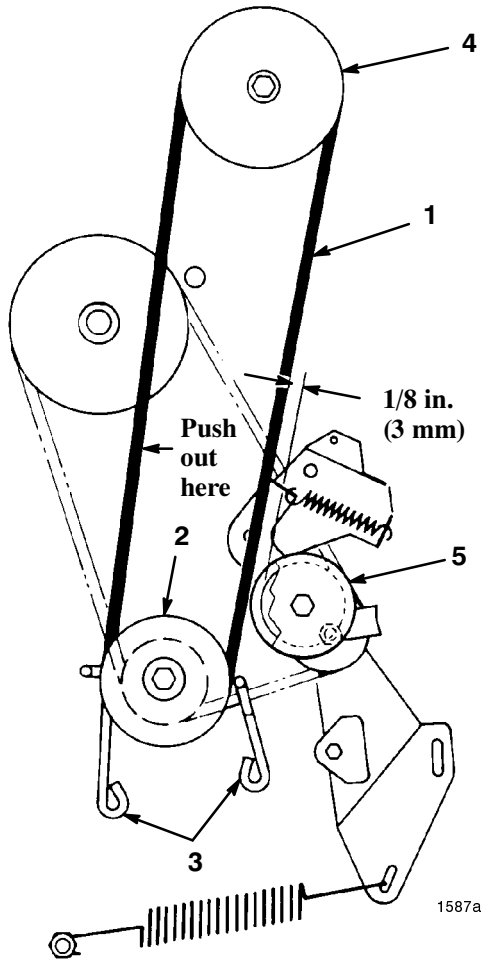

Figure 29
7. Loosen the screws securing the two engine pulley belt guides and move the guides away from the pulley. Remove the deck drive belt from the engine pulley (Fig. 29).
12. Push out on the belt as shown in Figure 29, and check the clearance between the outside of the belt and the inside of the idler pulley (Fig. 29). The clearance should be approximately 1/8 in. (3 mm).